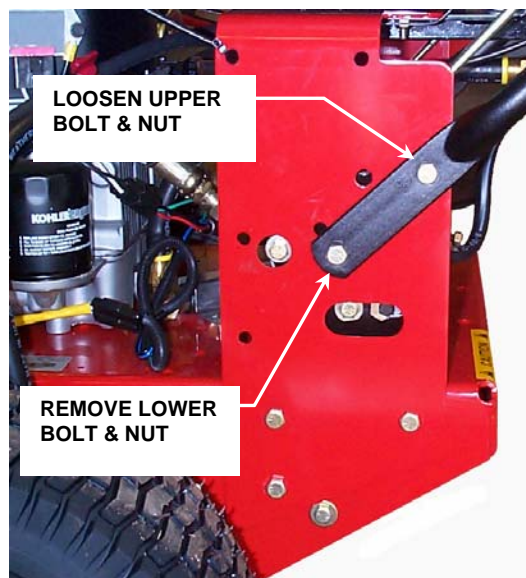

FIGURE 3.9
**STEP 5:** Loosen the upper bolt and nut on right and left side of Mower which holds Handlebar to Support Bracket. Remove the lower bolt and nut on each side. Retain this hardware. See Figure 3.9.